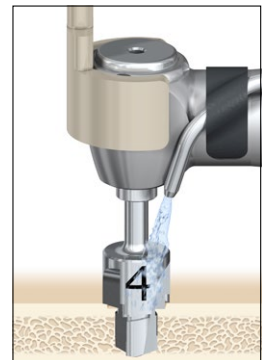

Fig. 16: Drilling with widening drill
9. Use the corresponding widening drill, depending on the depth reached with the guide drill. Drill perpendicular with an up and down movement to ensure irrigation can sufficiently cool the bone during drilling (Fig. 16). Minimise the countersink depth to avoid unnecessary bone polishing later in the procedure.